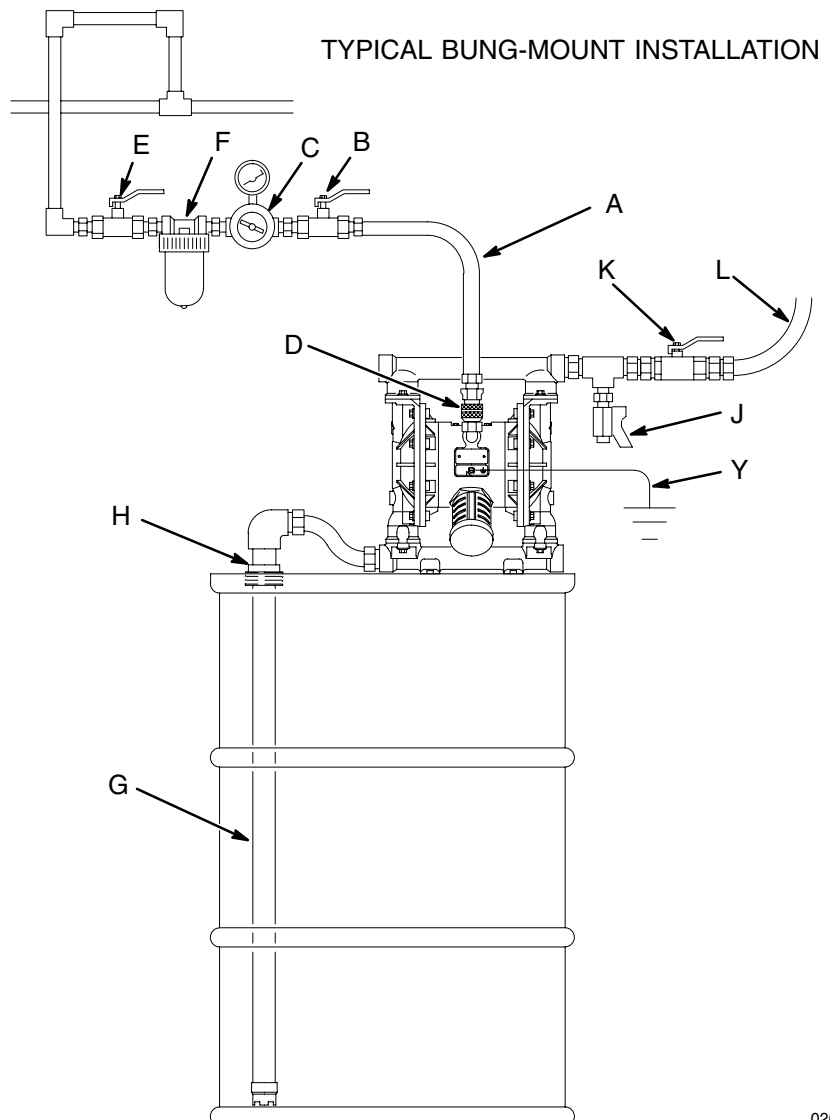

Fig. 2
- The Typical Installations shown in Figs. 2–4 are only guides for selecting and installing system components. Contact your Graco distributor for assistance in planning a system to suit your needs.
1. Install the air line accessories as shown in Figs. 2–4 on pages 6 and 8. Mount these accessories on the wall or on a bracket. Be sure the air line supplying the accessories is grounded.
- a. Install an air regulator (C) and gauge to control the fluid pressure. The fluid outlet pressure will be the same as the setting of the air regulator.
- b. Locate one bleed-type master air valve (B) close to the pump and use it to relieve trapped air. See the **WARNING** above. Locate the other master air valve (E) upstream from all air line accessories and use it to isolate them during cleaning and repair.
- c. The air line filter (F) removes harmful dirt and moisture from the compressed air supply.
2. Install a fluid drain valve (J) near the fluid outlet. See the **WARNING** above, and Figs. 2–4 on pages 6 and 8.
3. Install a shutoff valve (K) in the fluid outlet line.
### KEY FOR FIG. 2